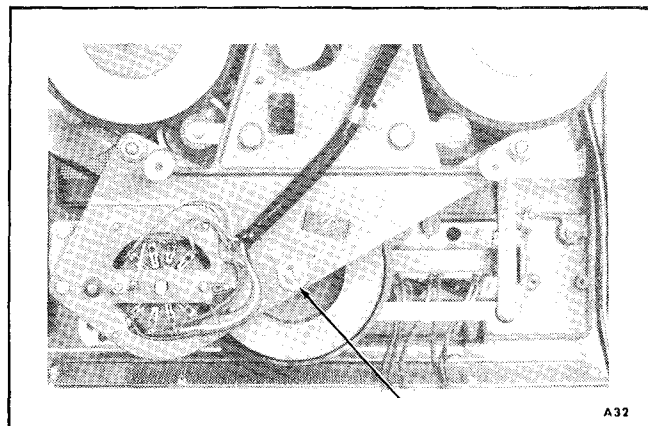

Figure 5-3. Capstan Thrust Adjustment
5.10 CAPSTAN THRUST (See Figure 5-3)